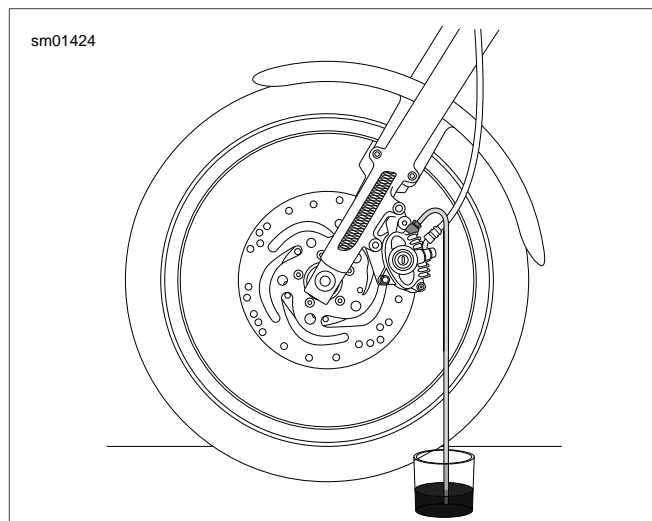

Figure 1-13. Bleeding Hydraulic System
5. See Figure 1-13. Install end of a length of 5/16 in. (7.9 mm) I.D. clear plastic tubing over caliper bleeder valve. Place free end of tube in a clean container.